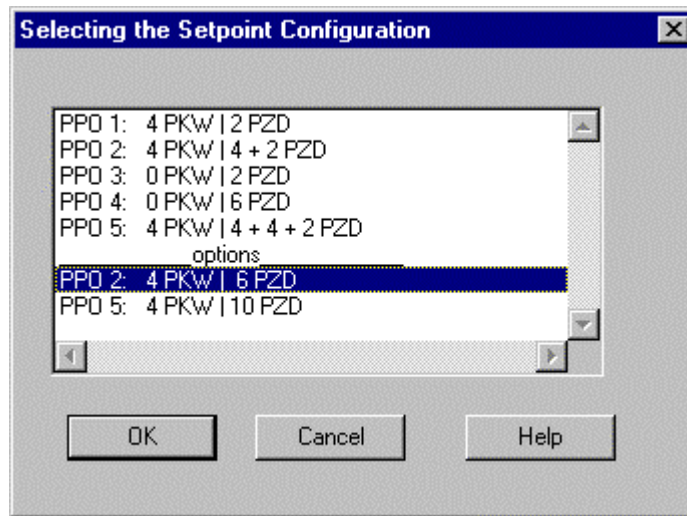

Figure 2
- When querying PPO 2: select 4 PKW I 6 PZD (example) (Figure 2)